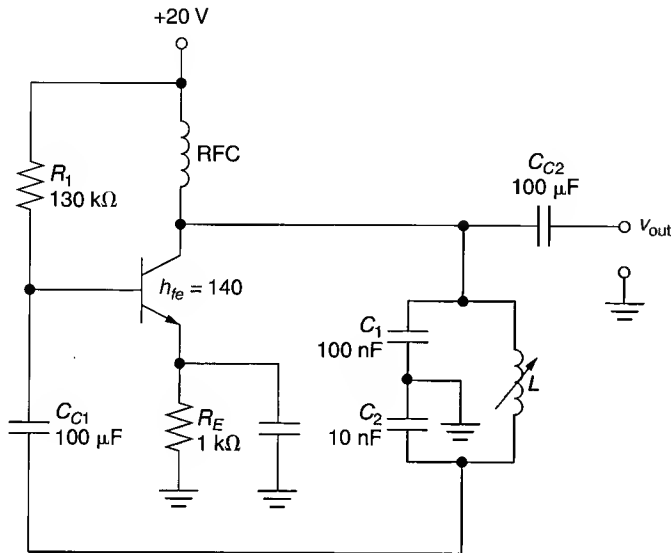

FIGURE 18.32
16. Despite its appearance, you've already seen the dc biasing circuit shown in Figure 18.32. Determine the type of biasing used, and perform a complete dc analysis of the oscillator.
17. The feedback inductor in Figure 18.32 is shown to be a variable inductor. Determine the adjusted value of L that would be required for an operating frequency of 22 kHz.